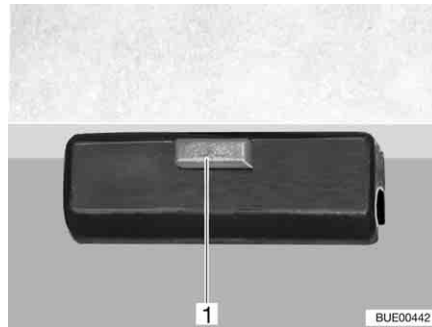

Fig. 104 Lock
- Release the lock (Fig. 104,1) on the table top.